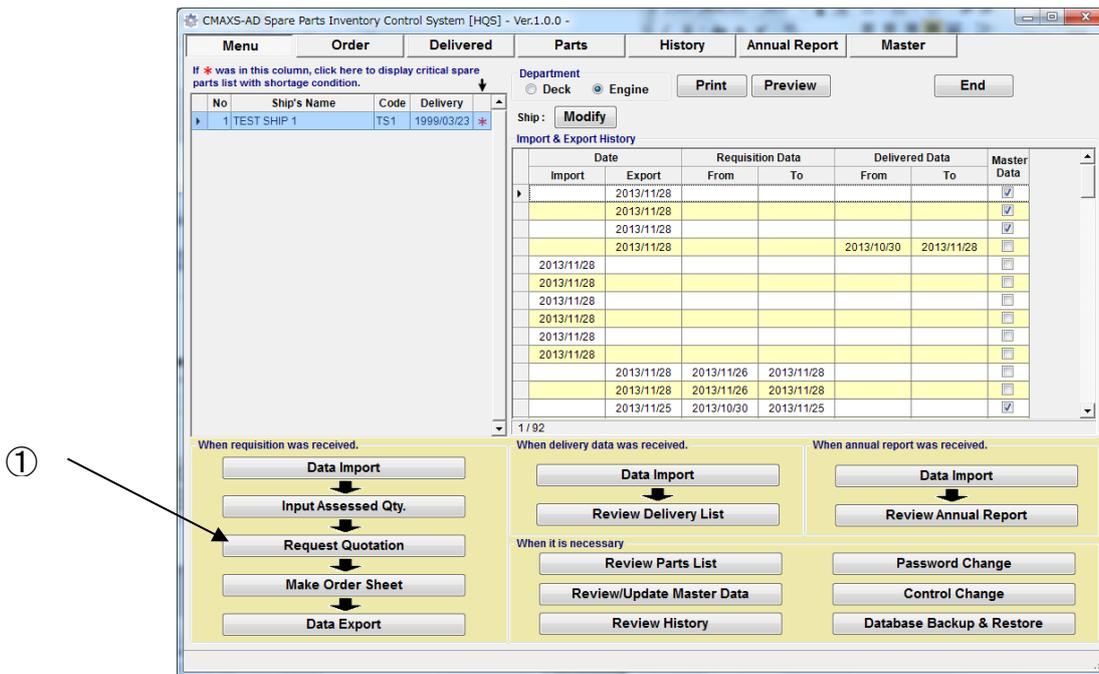

Fig.7-1 Menu Screen
- (1) On the “Menu Screen”(Fig.7-1), select [Request Quotation].